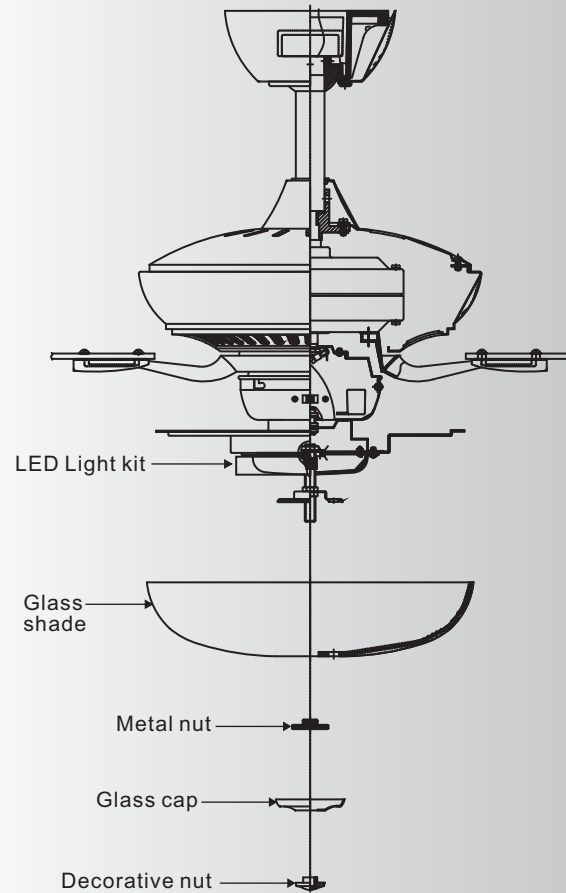

Fig. 20
Step 1. Remove the decorative nut, glass cap and metal nut from the LED light kit. Place glass shade over the LED light kit stem, secure with the metal nut (rubber side on the top), add the glass cap and decorative nut. Do not overtighten. (Fig. 20)